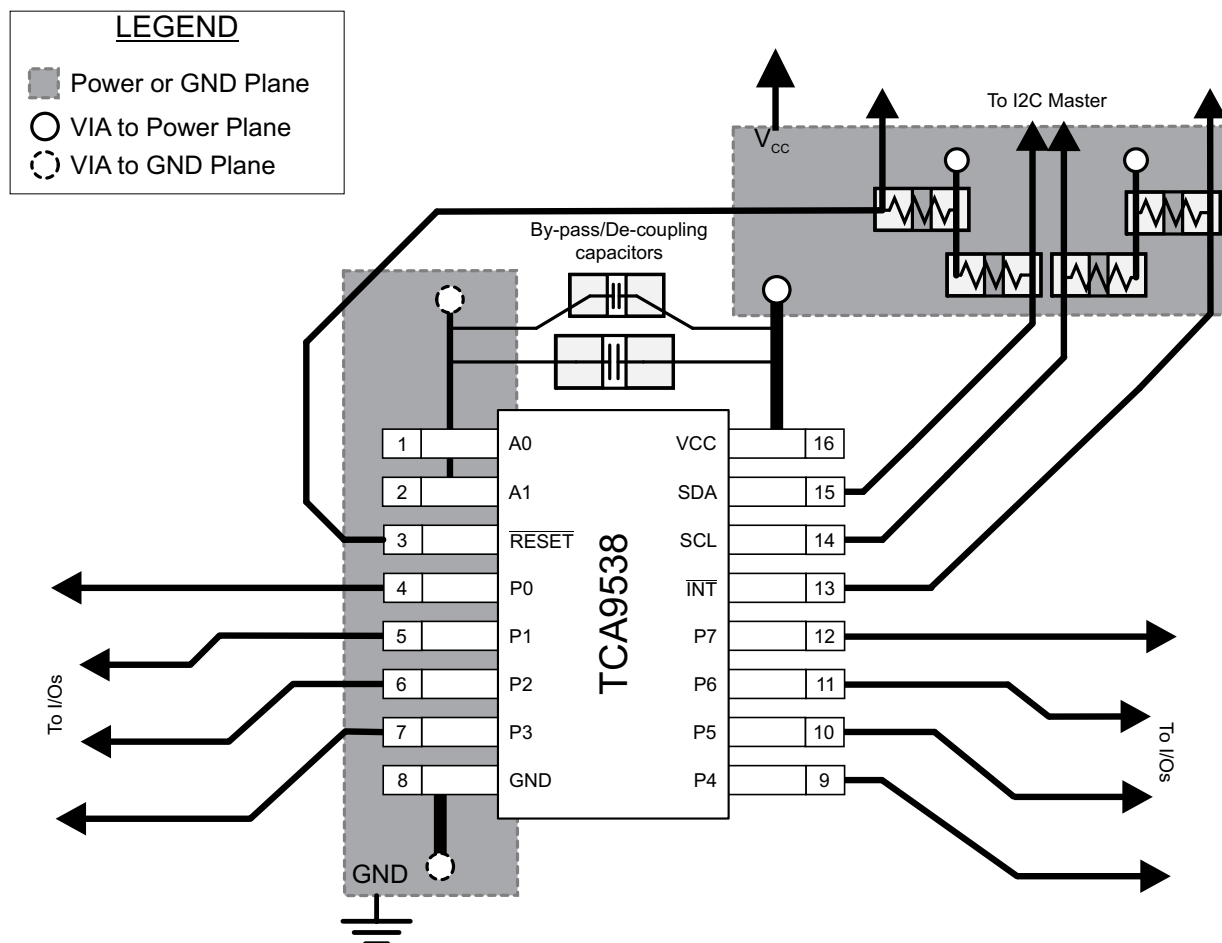

Figure 32. TCA9538 Layout
In all PCB layouts, it is a best practice to avoid right angles in signal traces, to fan out signal traces away from each other upon leaving the vicinity of an integrated circuit (IC), and to use thicker trace widths to carry higher amounts of current that commonly pass through power and ground traces. By-pass and de-coupling capacitors are commonly used to control the voltage on the VCC pin, using a larger capacitor to provide additional power in the event of a short power supply glitch and a smaller capacitor to filter out high-frequency ripple. These capacitors must be placed as close to the TCA9538 as possible. These best practices are shown in Figure 32.
For the layout example provided in Figure 32, it would be possible to fabricate a PCB with only 2 layers by using the top layer for signal routing and the bottom layer as a split plane for power (V_{CC}) and ground (GND). However, a 4 layer board is preferable for boards with higher density signal routing. On a 4 layer PCB, it is common to route signals on the top and bottom layer, dedicate one internal layer to a ground plane, and dedicate the other internal layer to a power plane. In a board layout using planes or split planes for power and ground, vias are placed directly next to the surface mount component pad which needs to attach to V_{CC} or GND and the via is connected electrically to the internal layer or the other side of the board. Vias are also used when a signal trace needs to be routed to the opposite side of the board, but this technique is not demonstrated in Figure 32.